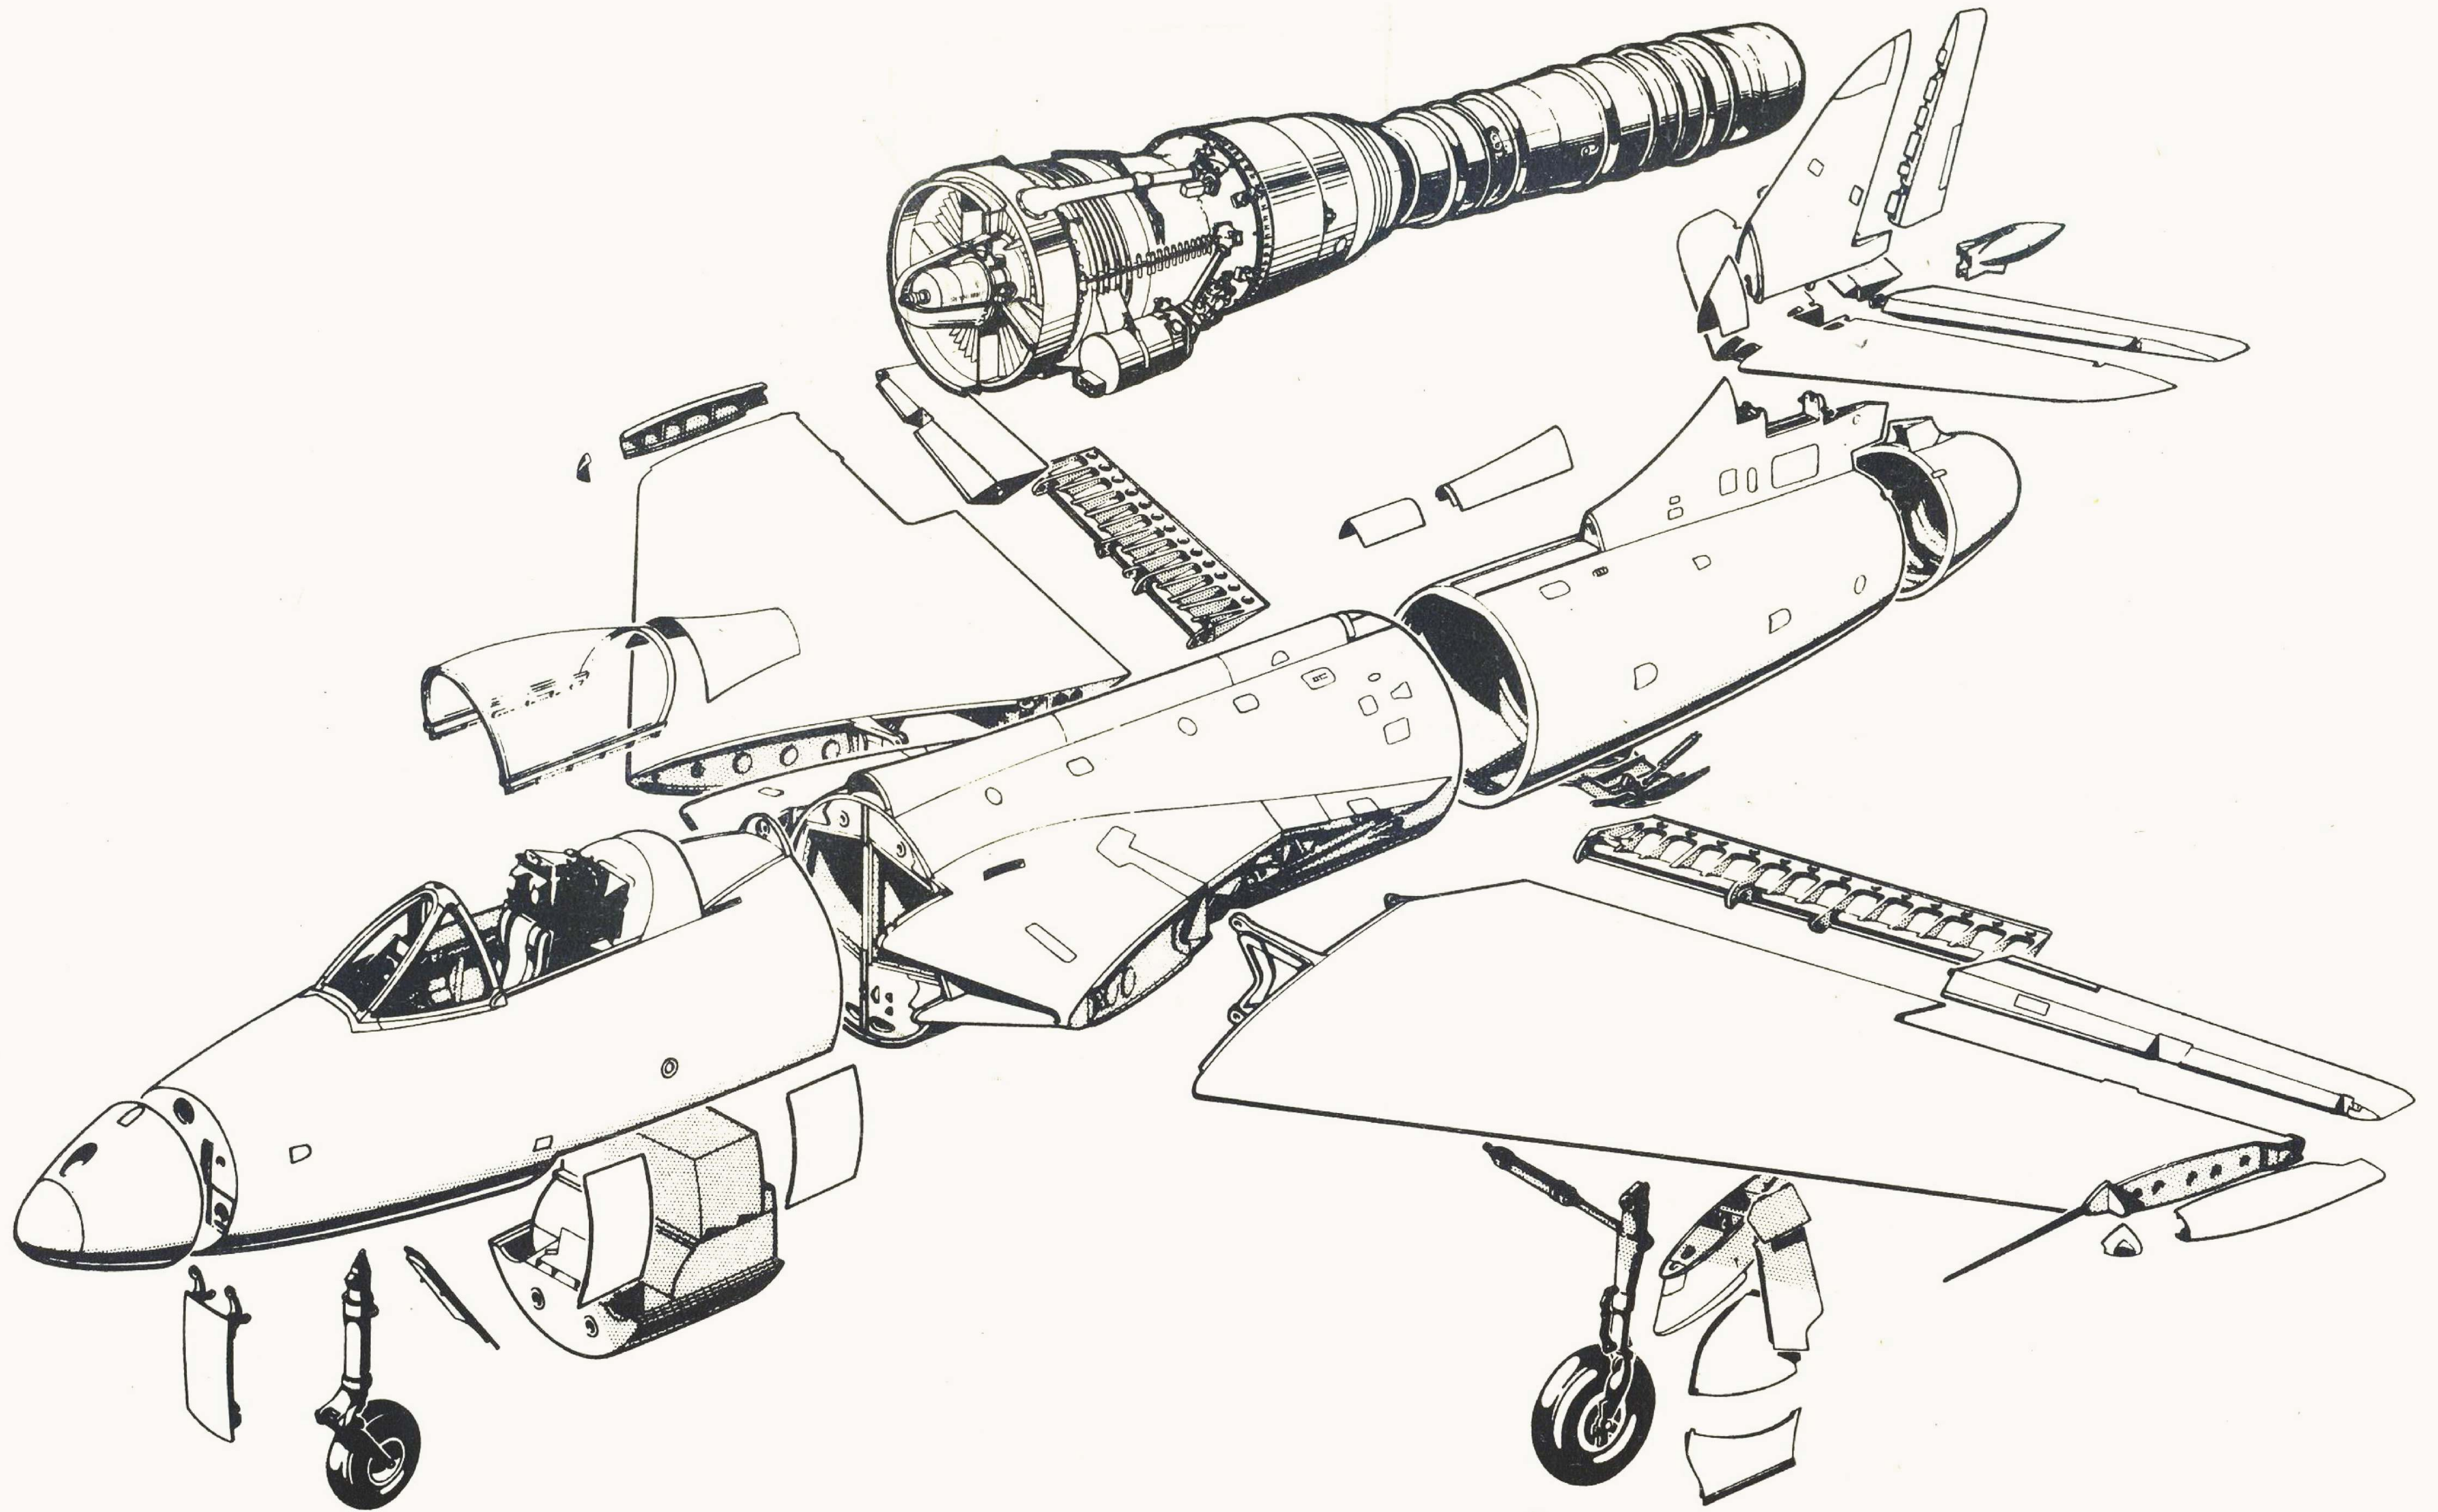

FIG. 1 MAJOR COMPONENTS
4. The breakdown points for dismantling the aircraft are shown in fig.1, together with the dimensions and weights of the principal components. The recommended order of dismantling is as follows:-
TABLE 3 Packing dimensions (Refer to Fig.1)
TABLE 3 Packing dimensions (Refer to Fig.1) -- contd.